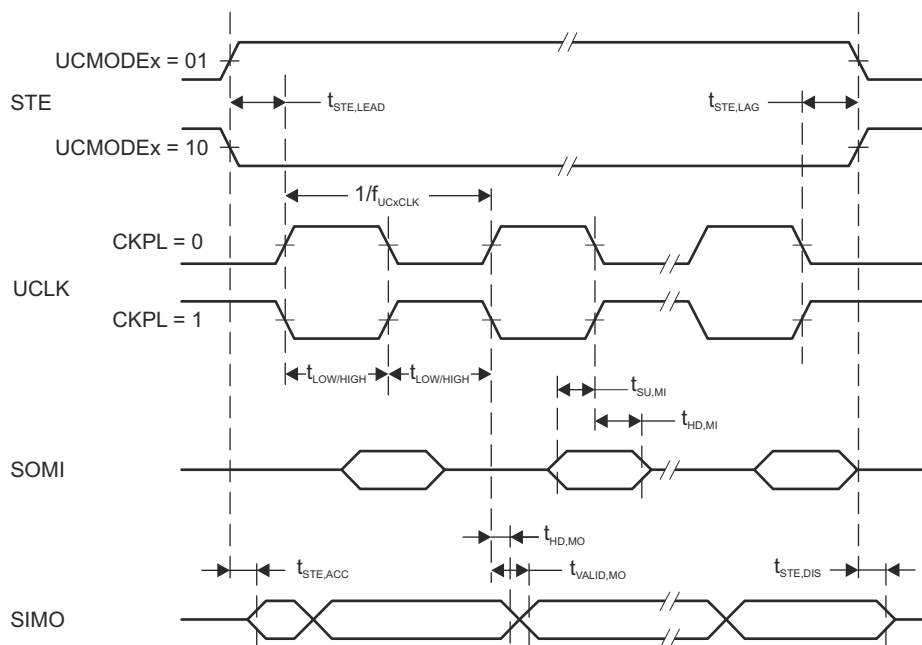
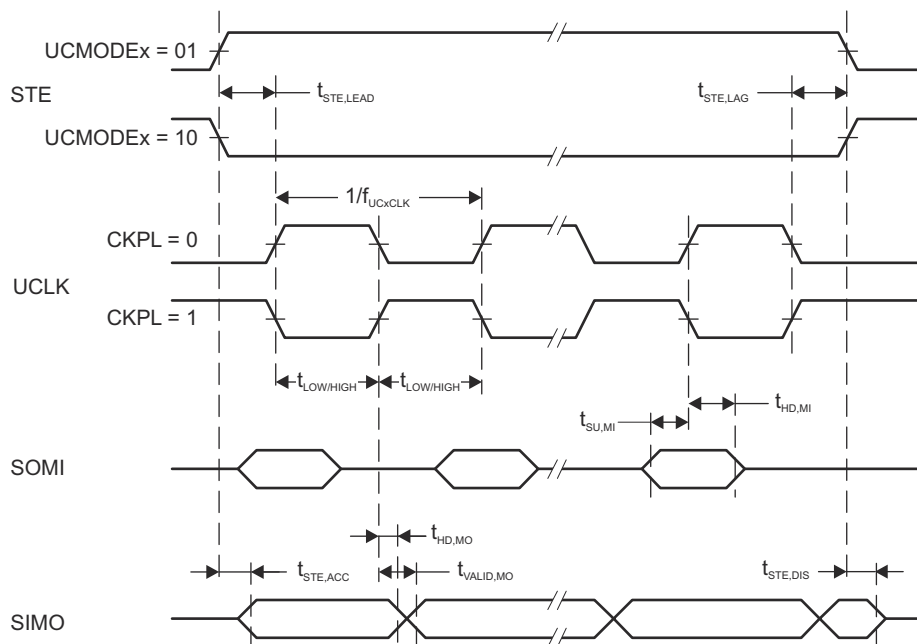

图 8-13. SPI Master Mode, CKPH = 0
图 8-14. SPI Master Mode, CKPH = 1
- (2) Specifies the time to drive the next valid data to the SIMO output after the output changing UCLK clock edge. See the timing diagrams in Figure 8-13 and Figure 8-14.
- (3) Specifies how long data on the SIMO output is valid after the output changing UCLK clock edge. Negative values indicate that the data on the SIMO output can become invalid before the output changing clock edge observed on UCLK. Refer to the timing diagrams in Figure 8-13 and Figure 8-14.